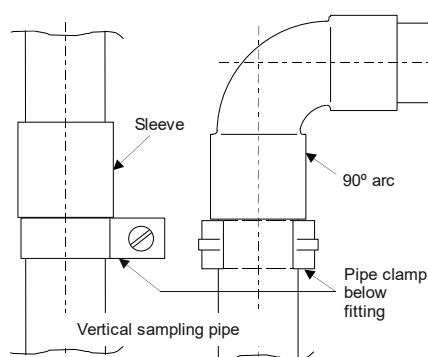

Fig. 21 Vertical sampling pipe
- If the sampling pipe or parts thereof is laid out vertically (e.g. in a riser or high-rack storage facility), make sure the tubes cannot slide down (fasten pipe clamps directly below the fittings as shown in **Fig. 21**).